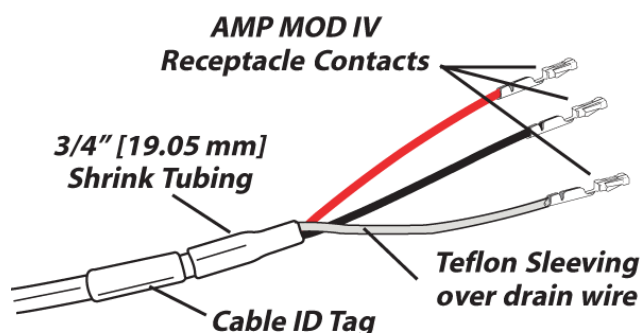

Figure 2-11. Audio Wire Ready for Insertion into an AMP MOD IV Connector Housing
5. Crimp the receptacle contact onto the wire and insulation (Figure 2-11).